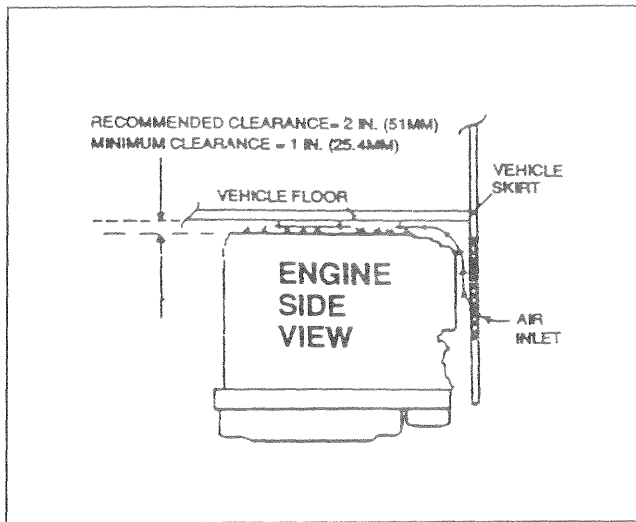

Figure 25 — Air Inlet in Vehicle Skirt
- By providing an opening in the vehicle skirt and space above the generator for cooling air flow (Figure 25 on Page 21). Recommended clearance above the top of the generator is at least 2 inches.